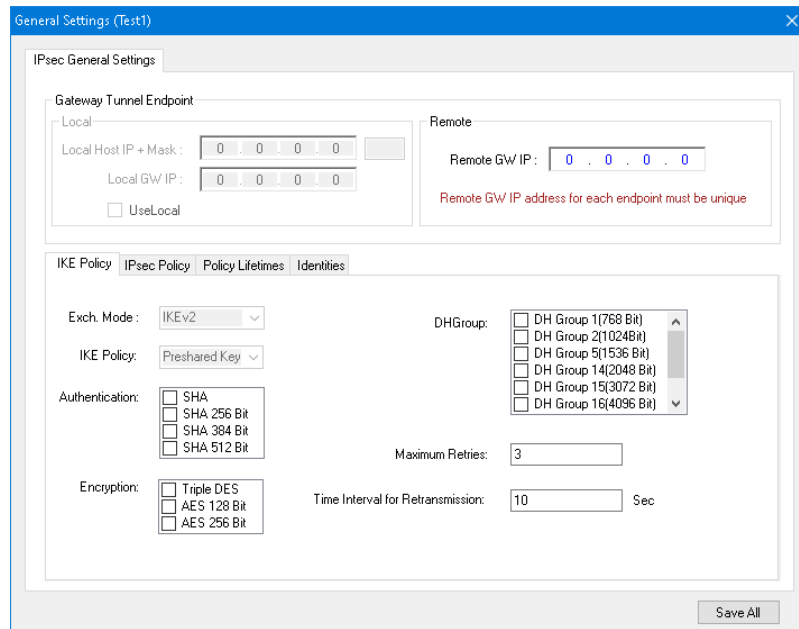

Figure 3-28 IPsec General Settings Screen
4. Select an available Endpoint from the "Configure Endpoint" screen and then select **Edit**. IPScom will display the "IPsec General Settings" screen (Figure 3-28) which allows the user to configure IPsec security settings, including IKE (Internet Key Exchange) Policy, IPsec Policy, Policy Lifetimes and Identities.